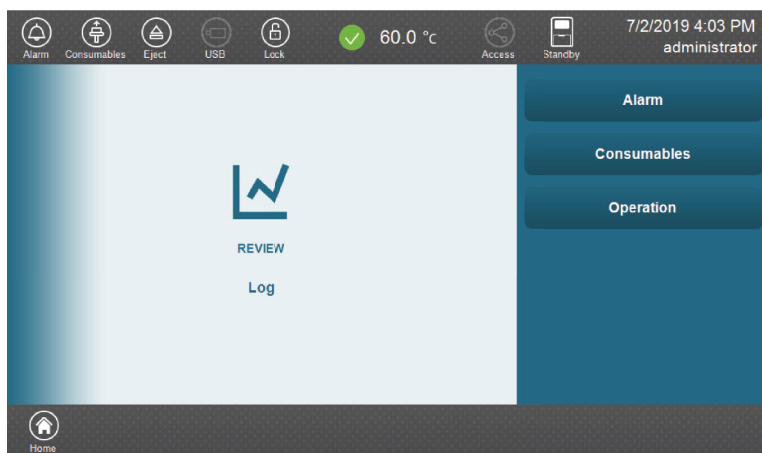
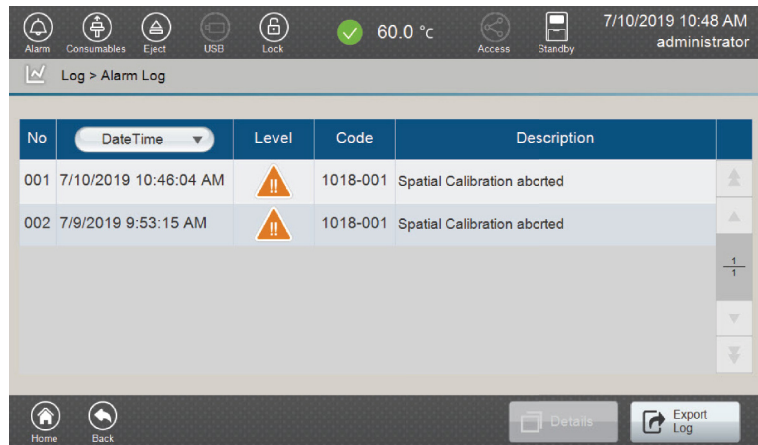
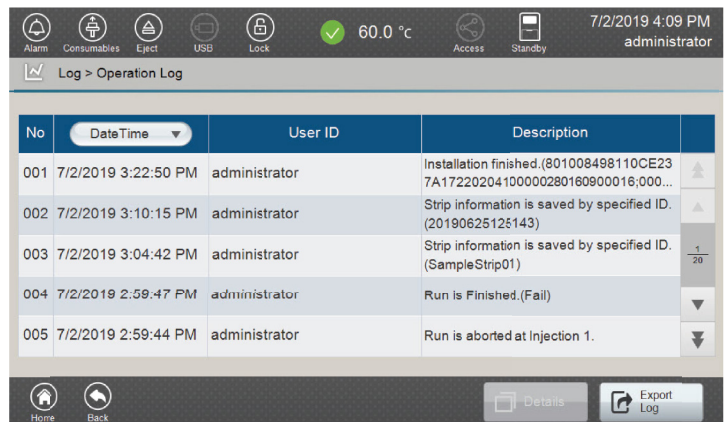

Figure 110. 'Log' screen.
Figure 111. 'Alarm Log' screen.
Figure 115. 'Operation Log' screen.
The Spectrum Compact Control Software logs alarm, consumables and operation information for the instrument. These logs can be accessed by selecting **Log**, which is located in the Review section of the 'Main Menu' screen (Figure 9) of the Spectrum Compact Control Software. There are three functions available in the 'Log' screen (Figure 110):
1. Select **Alarm** on the 'Log' screen (Figure 110) to open the 'Alarm Log' screen (Figure 111).
2. Select the **DateTime** column of the 'Alarm Log' screen to sort logs by date in ascending or descending order (Figure 111).
1. Select **Consumables** on the 'Log' screen (Figure 110) to open the 'Consumables Log' screen (Figure 113).
1. Select **Operation** on the 'Log' screen (Figure 110) to open the 'Operation Log' screen (Figure 115).
2. Select the **DateTime** column of the 'Operation Log' screen to sort logs by date in ascending or descending order (Figure 115).
1. Select either **Alarm**, **Consumable** or **Operation** on the 'Log' screen (Figure 110).